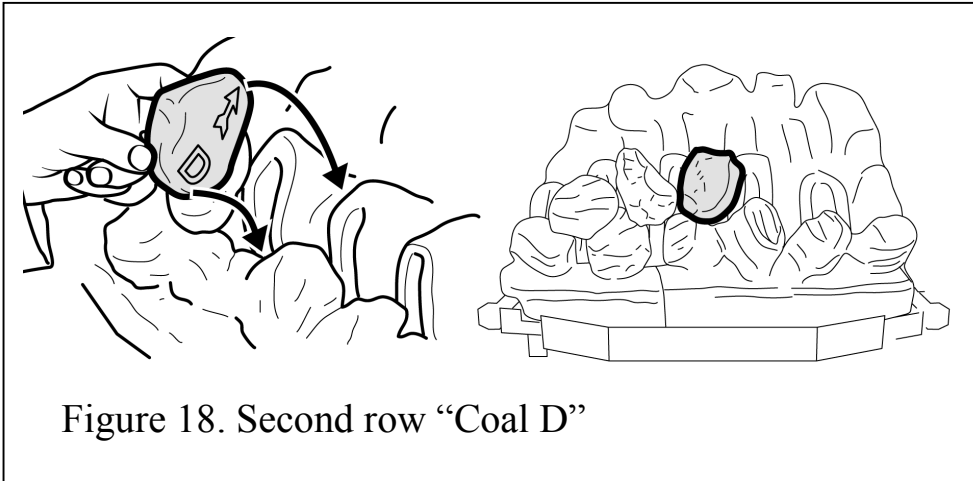

Figure 18. Second row "Coal D"
11. Hold coal 'D' upright with the arrow pointing to the top. Locate coal 'D' as shown in figure 18.